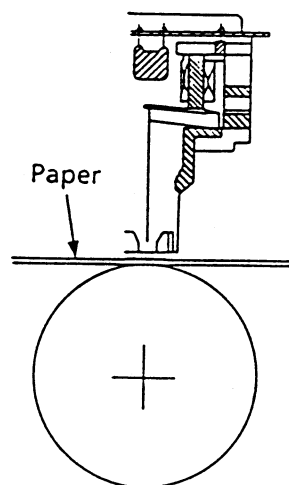

Figure 3-3
3.2.1 The printhead mechanism and its operation (See Figure 3.3.)